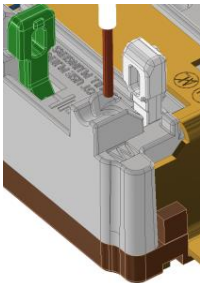

Fig. 7
3. Insert each conductor into its appropriate wiring chamber according to Table 1. See Fig. 7.